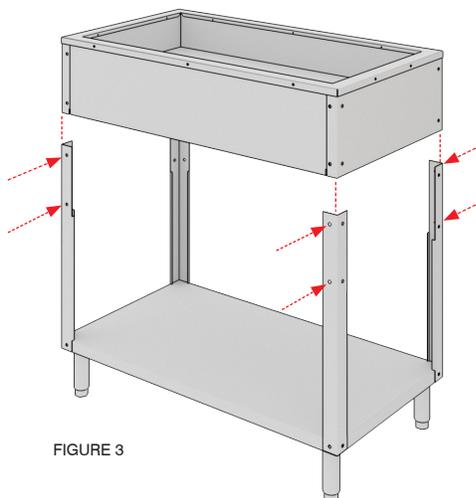

FIGURE 3
3. Set main box assembly onto corner posts as shown in figure 3. Have a second person assist in placing the box. Use $\frac{1}{4}$ -20 x $\frac{1}{2}$ " Truss head screws on the operator and customer sides only. Tighten completely.